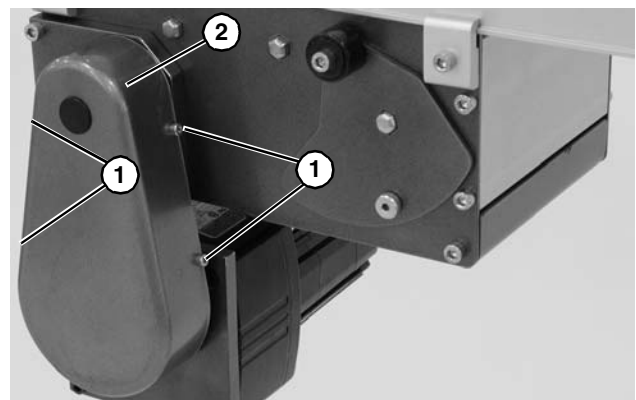

Figure 14
1. Remove four (4) screws (Figure 14, item 1) and remove cover (Figure 14, item 2).